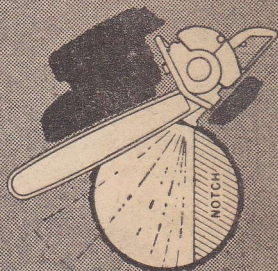

FIGURE 13
3. Because chain pulls bumper tight against the trunk, the cut must be made in arc form (Figure 13) pivoting on bumper. As you make cut, watch both cut and top of tree for signs of movement. Moment tree starts to tip, release throttle and get 20-25 feet back from trunk. **KEEP ALERT.**